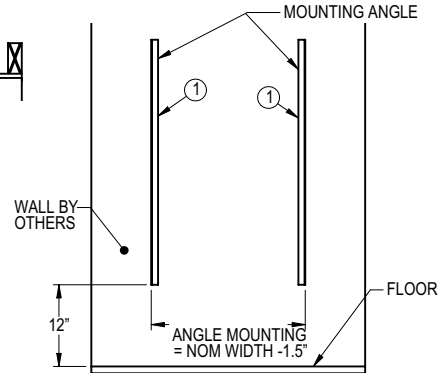

FIGURE 3
- 3) Install diffuser (Item 2) over the mounting angles so that the back of the diffuser is flush with the wall (see Figure 3,4 & 5). Fasten to mounted angles with screws (Item 5). Use minimum 2 screws per side of diffuser